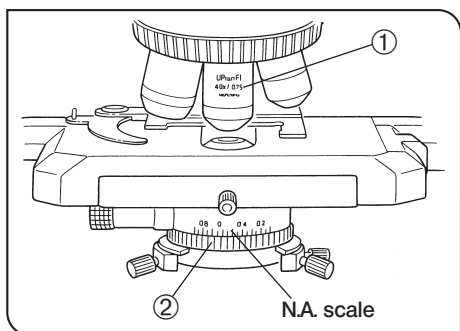
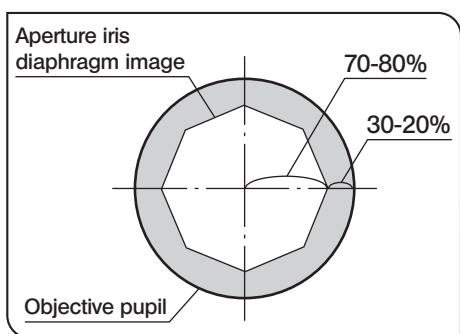

Fig. 45
Fig. 46
Aperture Iris Diaphragm (Figs. 45 & 46)
- To observe an optimum image, set the condenser aperture iris diaphragm to between 70 and 80% of the NA ① (Numerical Aperture) of the objective in use.
- Align the index on the aperture iris diaphragm ring ② with the NA scale value between 70% and 80% of the NA ① of the objective (Fig. 45). At this time, if you remove an eyepiece and look into the observation tube, you will be able to see the objective pupil and aperture iris diaphragm image as shown in Fig. 46.